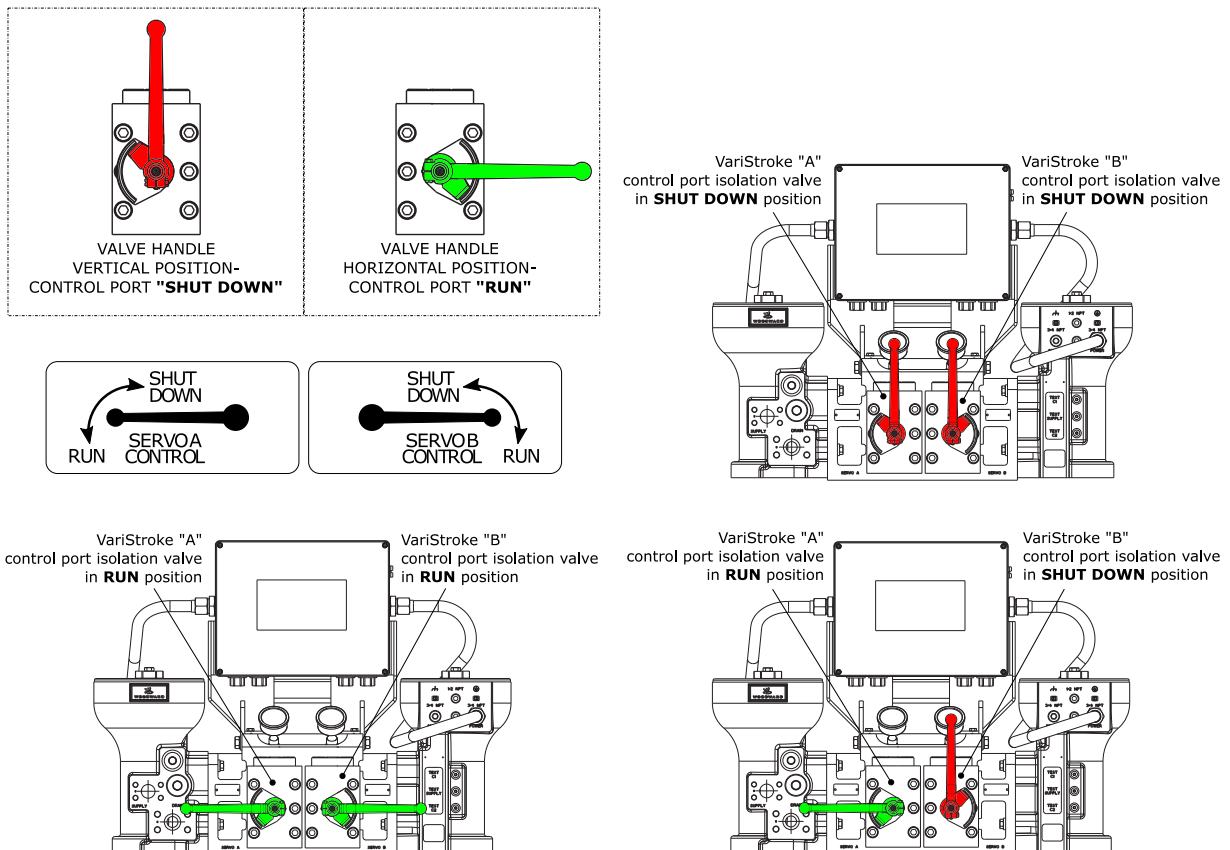

Figure 4-3. VS-DX Isolation Valves Positions
5. Close and tag out the VS-DX skid control isolation valves (of servo A and servo B). See Figure 4-3 for RUN/SHUT DOWN orientations.